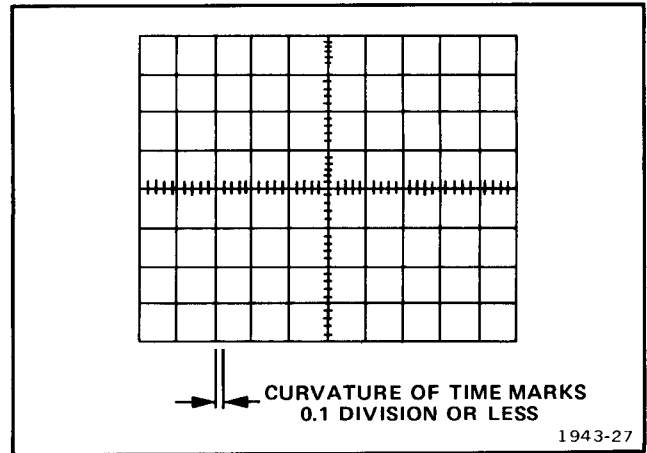

Fig. 6-4. Geometry.
c. ADJUST—R1273 for minimum curvature of time marks (see Fig. 6-4).